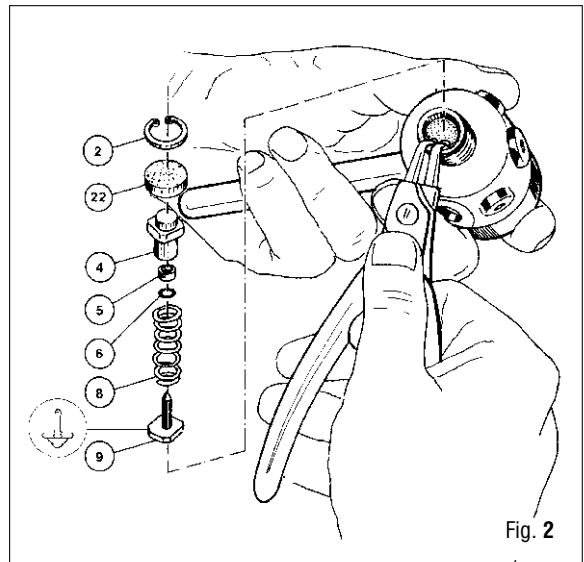

Fig. 2
- A. With the 6 mm Allen wrench (B-8), unscrew DIN connector valve (51) and remove O-rings (23) and (50).
- B. Remove locking nut (49).
- C. With wrench B-16, unscrew DIN connector (48) and remove O-ring (23).
3. Use snap ring pliers (B-14) to remove retaining ring (2), filter (22), HP poppet retainer assembly (4+5+6), spring (8), poppet (9) and poppet pin (12) from first stage body (1). (Fig. 2)
4. Remove O-ring (6) from the HP poppet retainer.